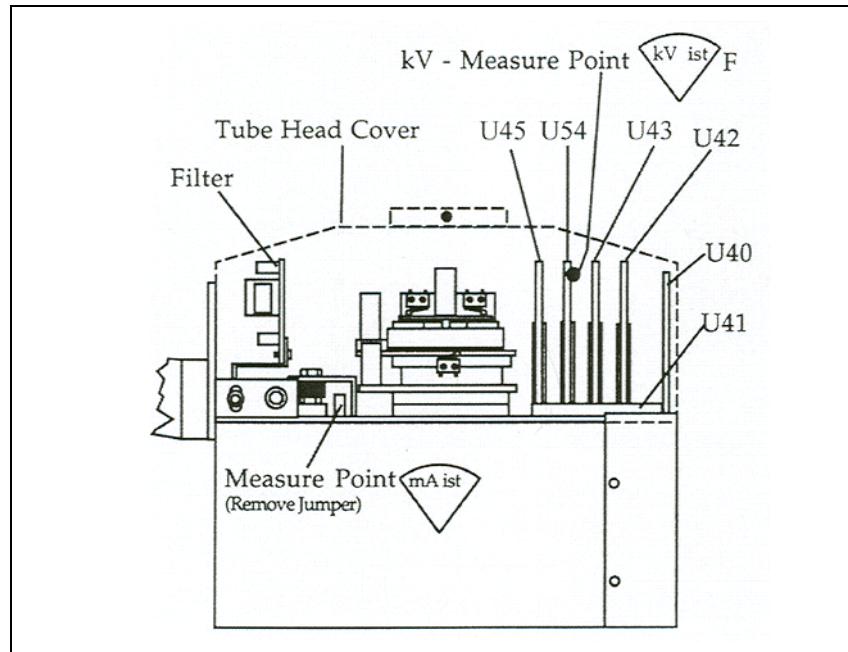

Fig. 1 Generator components
- Set an oscilloscope to 2.0 volts on the DC scale (1 V = 10 kV). Connect the oscilloscope to TP OV and TP f (→ *fig. 1, p. 2-8*) or use a non Invasive kVp meter and place it in the beam above the generator following the manufactures instruction for measuring kVp.
- Remove the mA bridge (→ *fig. 1, p. 2-8*) and insert a mAs multimeter probe in place of the jumper.
- Remove the mA bridge (→ *fig. 1, p. 2-8*) and insert a multimeter probe in place of the jumper.